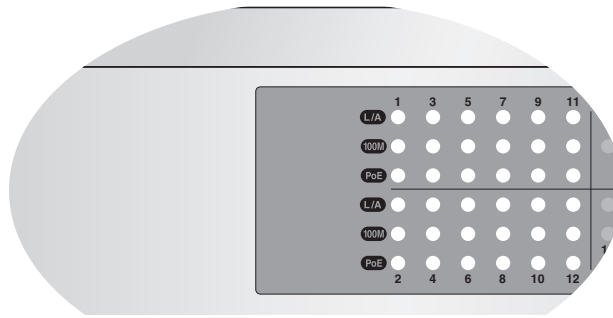

Figure 3. POE Port LEDs
**10/100Base-T POE Port LEDs** Ports 1 through 12 each have three LEDs as shown in Figure 3 and described in Table 3.
Ports 13 through 24 each have two LEDs as shown in Figure 3 and described in Table 3